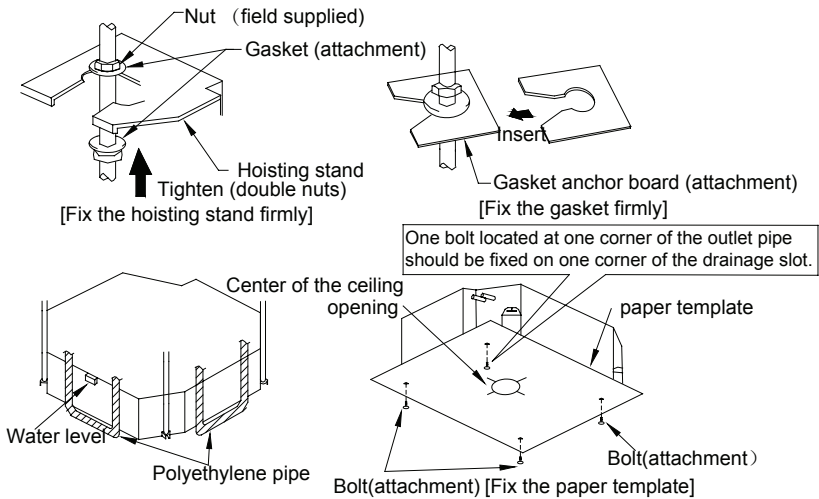

Fig.8
(2) Use install cardboard (as Fig.8).
(3) Adjust the unit to the suitable install place(as Fig.8).
(4) Check if the unit is horizontal(as Fig.8).